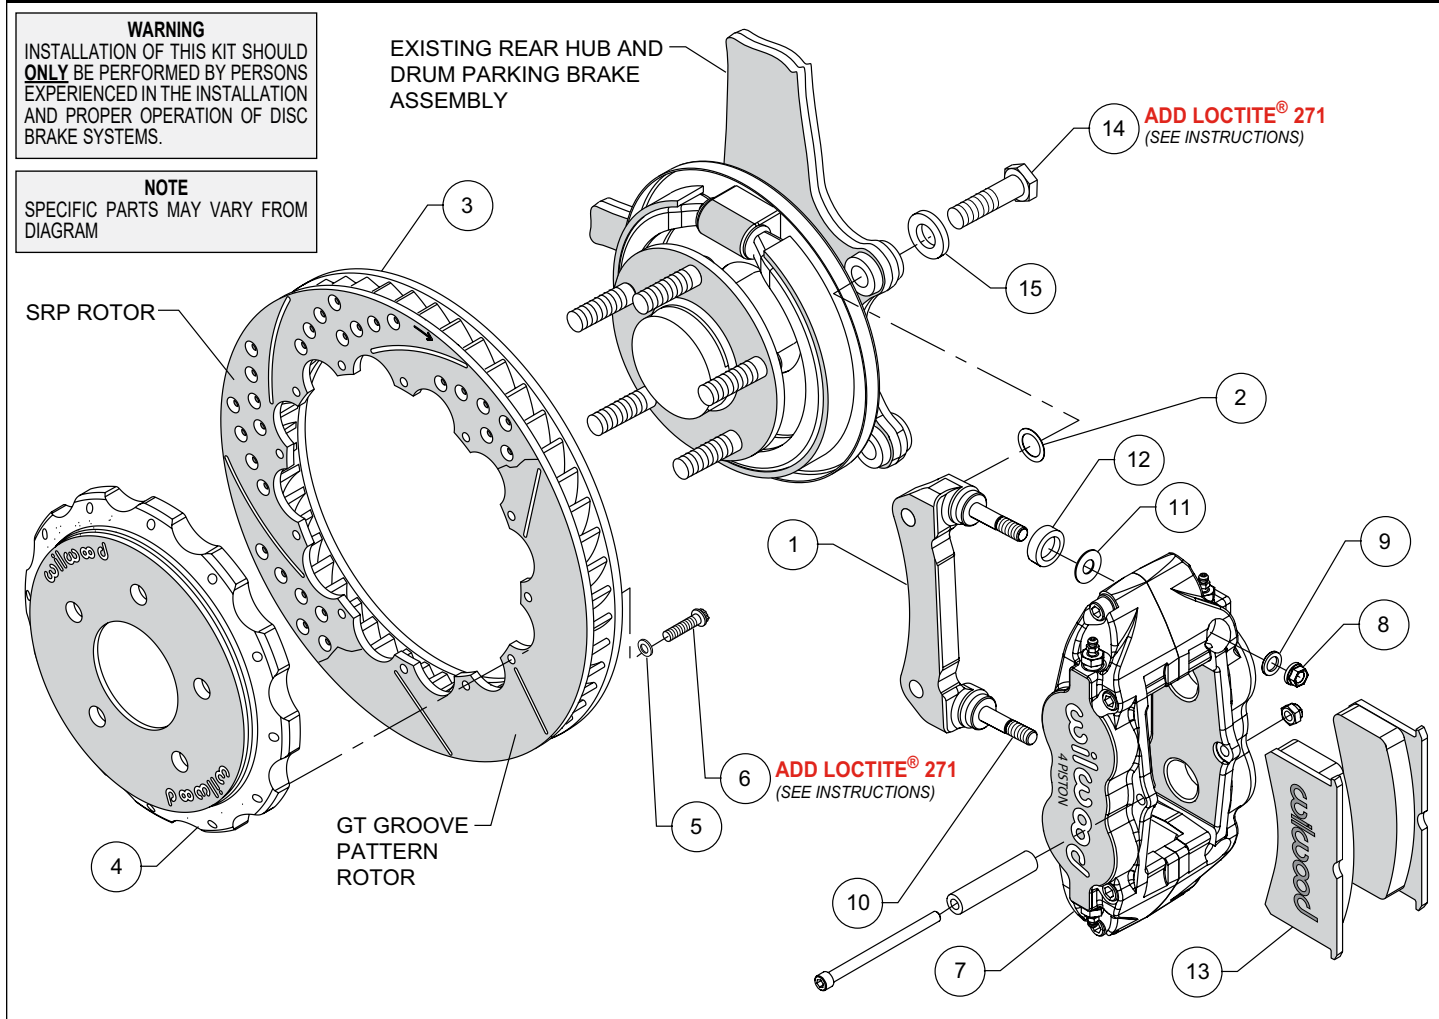
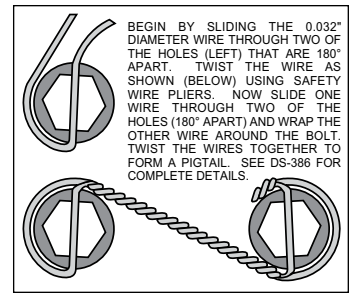

Figure 1. Typical Installation Configuration
Figure 3. Safety Wire Diagram
Assembly Instructions (numbers in parenthesis refer to the parts list and Figure 1 on the preceding pages):
- The caliper mount bracket (1) should initially be installed with clean, dry threads on the mounting bolts. Orient the bracket, as shown in Figure 1 and install using bolts (14) and washers (15). Initially place one .029" thick shim (2) on each bolt between the bracket and upright, Figure 1. Temporarily tighten the mounting bolts. **NOTE:** The bracket must fit squarely against the mount bosses on the upright. Inspect for interference from casting irregularities, machining ridges, burrs, etc. Later, after the caliper alignment has been checked, the mount bolts will be secured using red *Loctite*® 271.
- Orient the rotor (3) and the hat (4) as shown in Figure 1 and Photo 1. Attach rotor to hat using bolts (6) and washers (5). Apply red *Loctite*® 271 to the bolt threads and torque to 155 **in-lb** using a criss-cross pattern. For an added measure of security, the bolts may be safety wired using standard 0.032 inch diameter stainless steel safety wire as shown in Figure 3. Refer to Wilwood's data sheet DS-386 (available at www.wilwood.com/Pdf/DataSheets/ds386.pdf) for complete safety wire installation instructions.
- Initially place one .035" thick shim (11), and spacer (12) on each stud (10) as shown in Figure 1 and Photo 2. Mount the caliper (7) onto the bracket (1) using lock nuts (8) and washers (9), Figure 1. Temporarily tighten the lock nuts and view the rotor through the top opening of the caliper. The rotor should be centered in the caliper, Photo 3. If not, adjust by adding or subtracting shims (2) between the bracket and the upright. Always use the same amount of shims on each of the two mounting bolts. Once the caliper alignment is correct, remove the bracket mounting bolts (14) one at a time, apply red *Loctite*® 271 to the threads, and torque to 77 ft-lb.